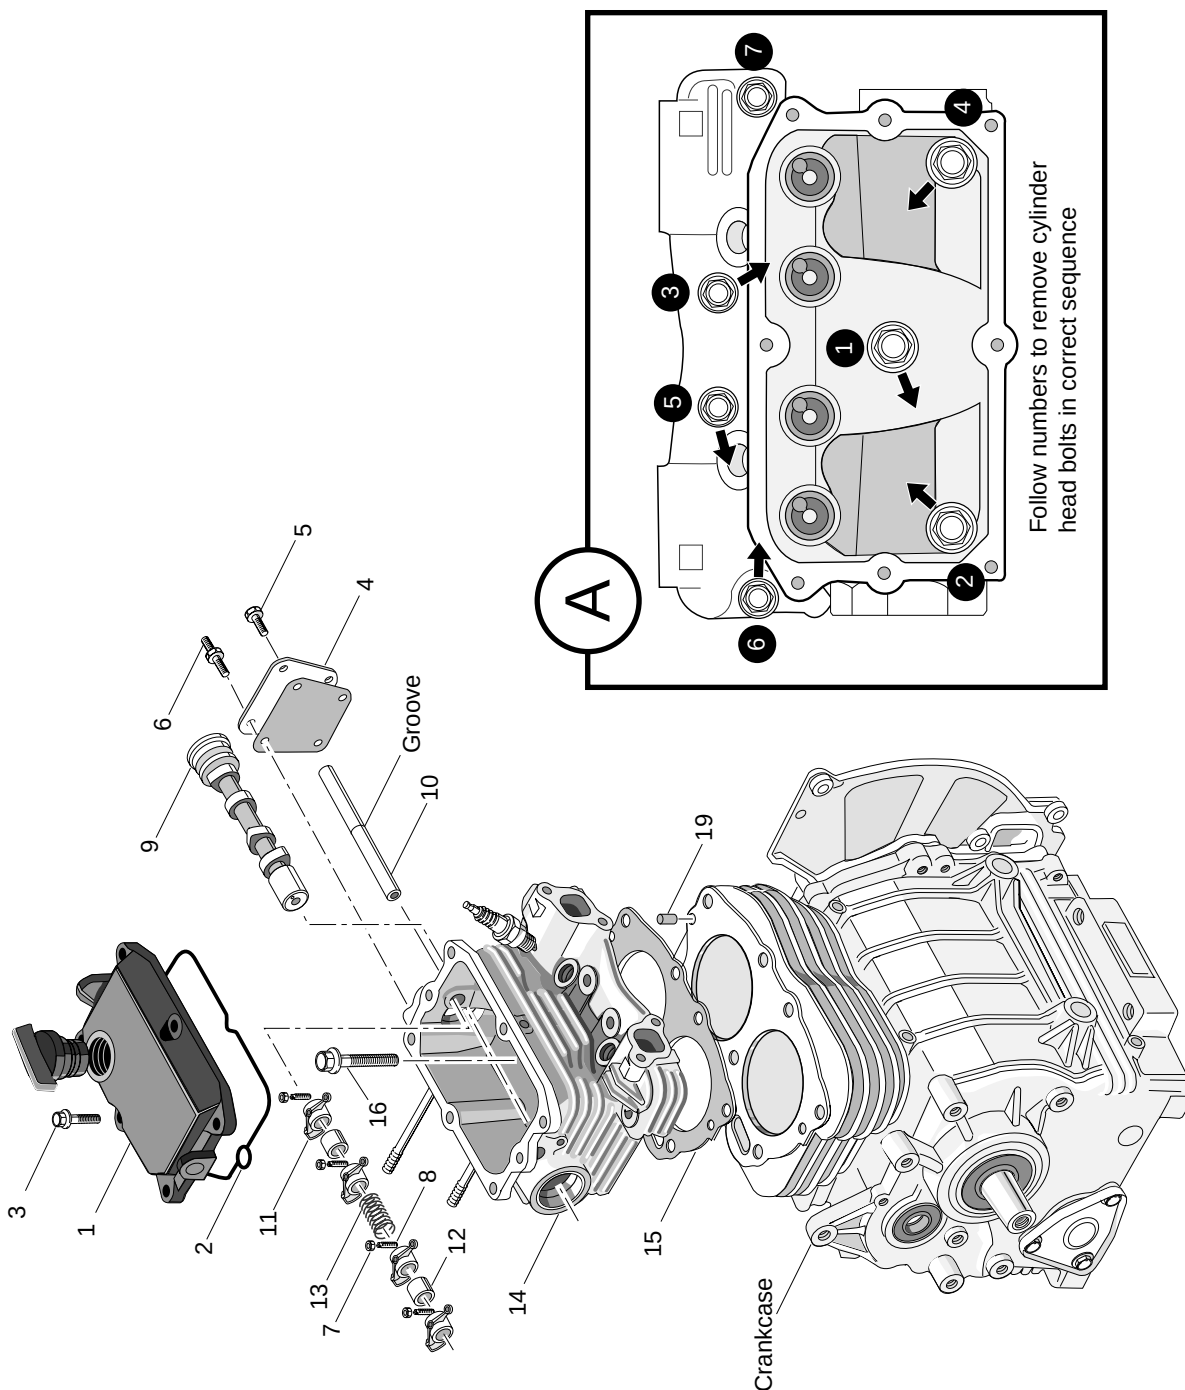

Fig. A-2 Cylinder Head Components
| Fig. A-2 Cylinder Head Components..... | A - 5 |
(See Fig. A-2 "Cylinder Head Components" on page A-5)
**CAUTION** Because this is an aluminum cylinder head, it is important that the clamping pressure of the mounting bolts be released evenly. Remove them in the order shown in detail A (Ref Fig. A-2 on page A-5) by loosening only 1/8 turn at a time.
- A. Using a 12mm socket and extension, remove six (6) cylinder head bolts (ITEM 16) in the sequence shown. Remove the cylinder head (ITEM 14), gasket (ITEM 15) and dowel pins (ITEM 19) from crankcase.